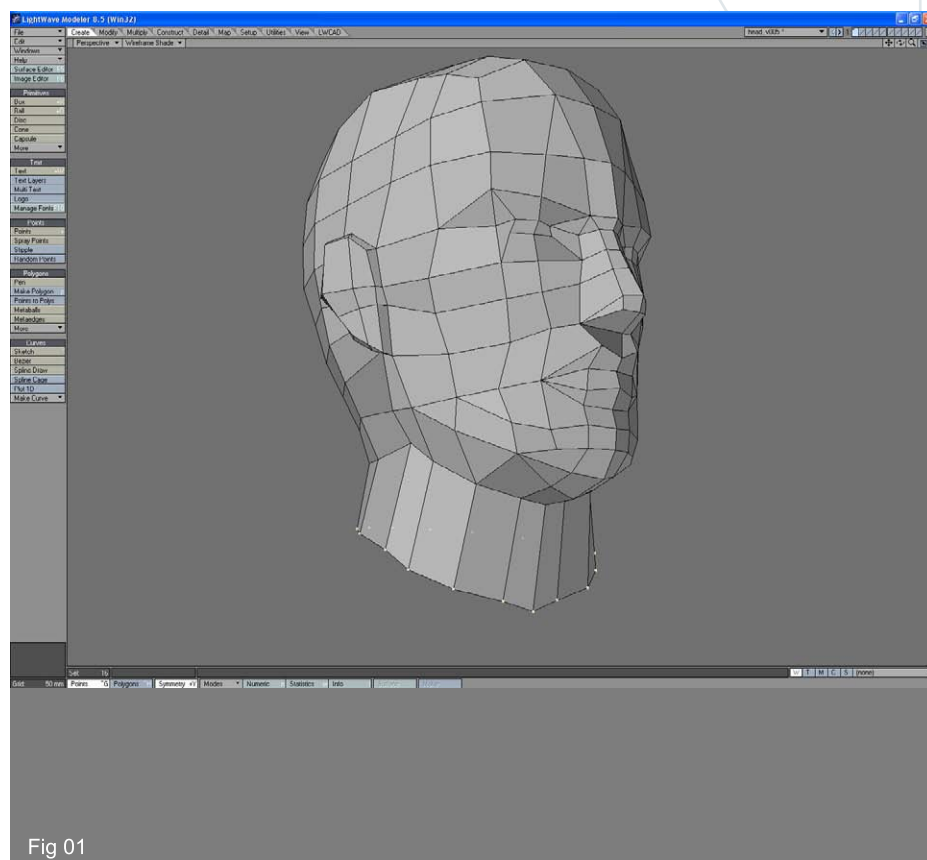

Fig 01
1. Start by, selecting the lowest points of the head model and use the Extender plus tool (just hit 'e') to extend once. Use the Move tool ('t') to move the new points downward along the Y axis. Holding Ctrl key while you move, will lock the movement to one axis, so the points won't move on X or Z axis. Using the Drag tool (Ctrl+t) and Symmetry mode on (Shift+y), adjust the points so they are forming more of a natural neck shape. If you have polygons at the bottom of the head, feel free to select and delete them as they won't be needed in the modelling process (Fig01).